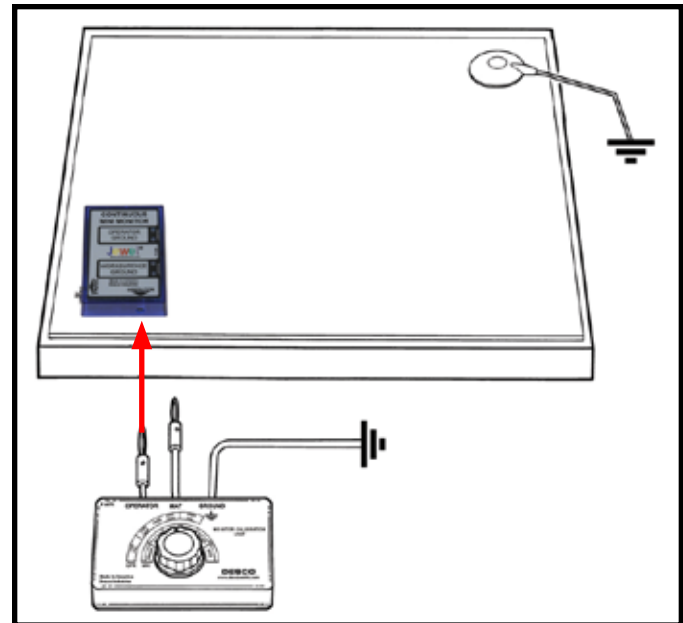

Figure 6. Connecting the OPERATOR test lead from the Monitor Calibration Unit to the Jewel® Workstation Continuous Mini Monitor
Step 2: Insert the Calibration Unit’s banana plug labeled “OPERATOR” into the jack labeled “OPERATOR” on the Jewel® Workstation Continuous Mini Monitor (see Figure 6).